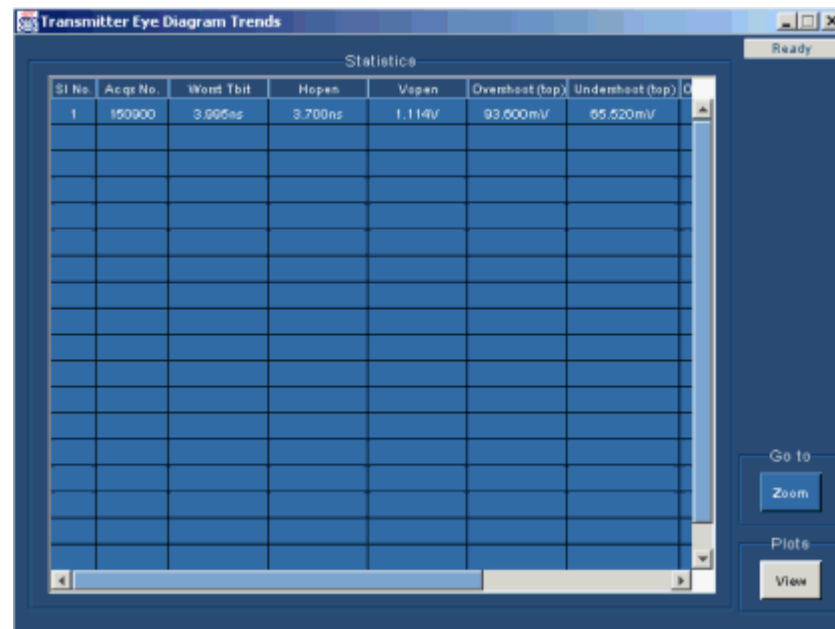

Figure 3-32: Eye trends statistical table
- Select the **View** button to display the Statistics table as shown in Figure 3-32.